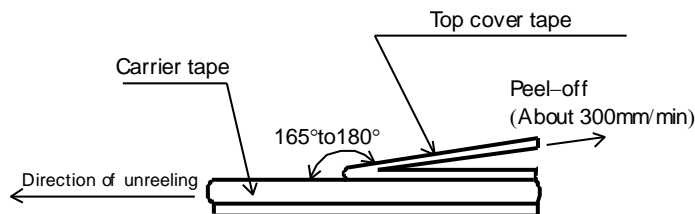
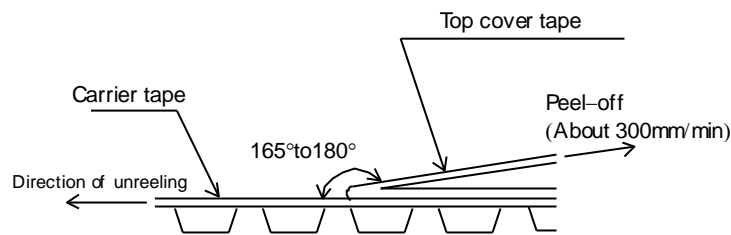

Figure-8
Figure-9
- 5). The peel strength of the top cover tape shall be within 0.1N to 0.5N on the test method as shown in the following RVC16,20,32: Figure-8, RVC50,63: Figure-9.